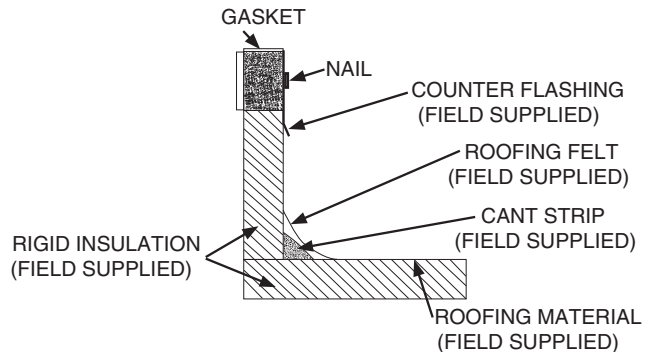

Fig. 5 — Gasket and Weatherproofing Detail
12. Weatherproof the roof curb, per Fig. 5 recommendations or using the specific job requirements.